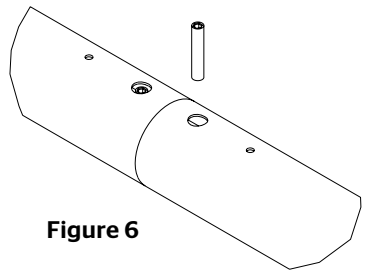

Figure 6
3. Insert second set screw and tighten all the way until tube is secure. See Figure 6.
4. Tighten first set screw the rest of the way. See Figure 6.